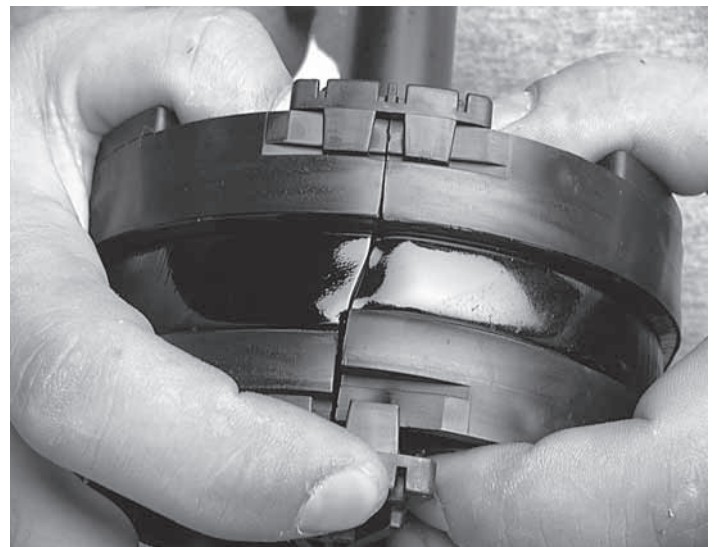

Figure 12
1. First, turn the "tail" of the gel end-piece counter clockwise until it stops to ensure that the cable openings are in the open position. Squeeze the gel end-piece to open it. (Figure 12)